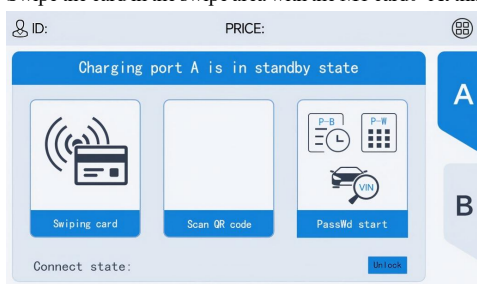
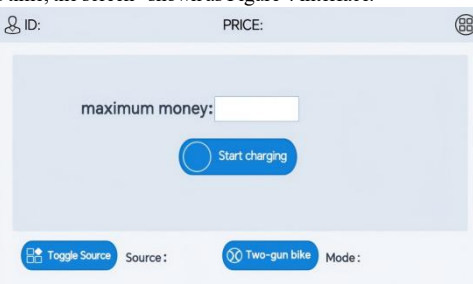

Figure 3 Car connected screen
Figure 4 Mode selection screen
3.1.2 Park EV near to the charger, and plug the charging gun into the EV. After plug-in, please check the gun is correctly and tightly connected. When the screen shows the connection status as Car connected(Figure 3 shows), Swipe the card in the swipe area with the M1 card. At this time, the screen shown as Figure 4 interface.
3.1.3 You can ignore this step. If it is an old GB standard car (generally before the end of 2017), and it is confirmed that the BMS power supply on the car is 24VDC, it is required Touch the lower-left corner of the Figure 4 interface and select the 24VDC power supply. If it is a new GB standard car (generally at the end of 2017 Later), It is generally a 12VDC BMS power supply, and the system defaults to a 12VDC BMS power supply, so if it is a new GB standard car, you can ignore this step.